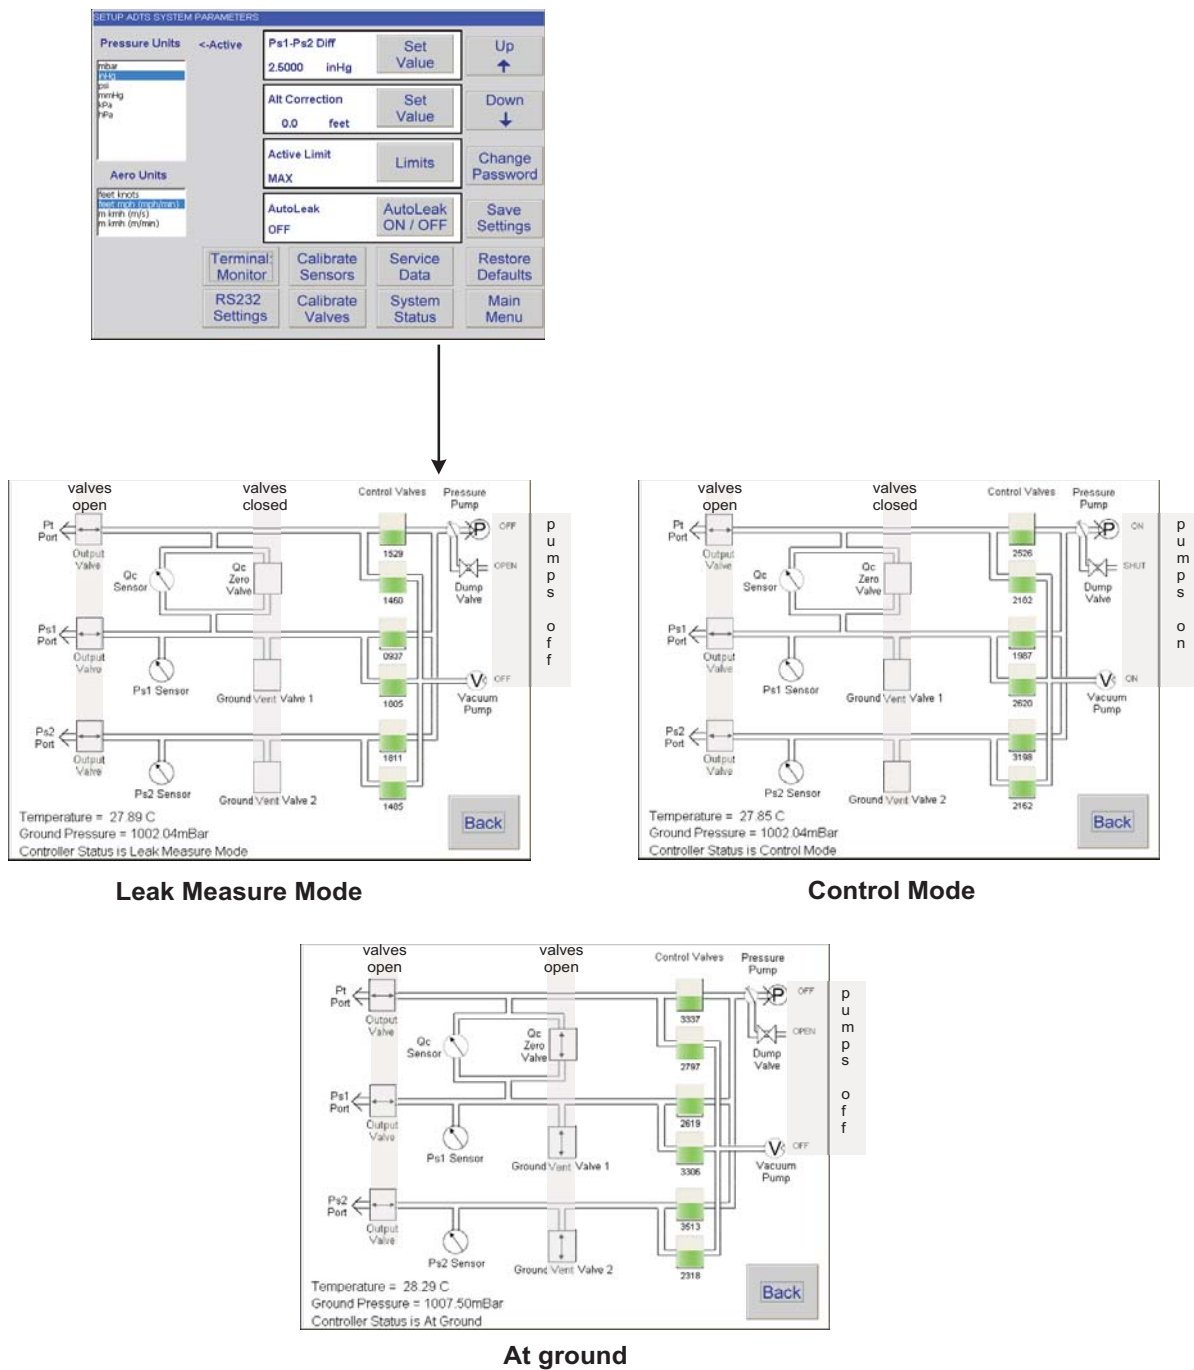

FIGURE 5-1 SYSTEM STATUS
- To check the general condition of the controller system go to system set-up, system status (Figure 5-1).